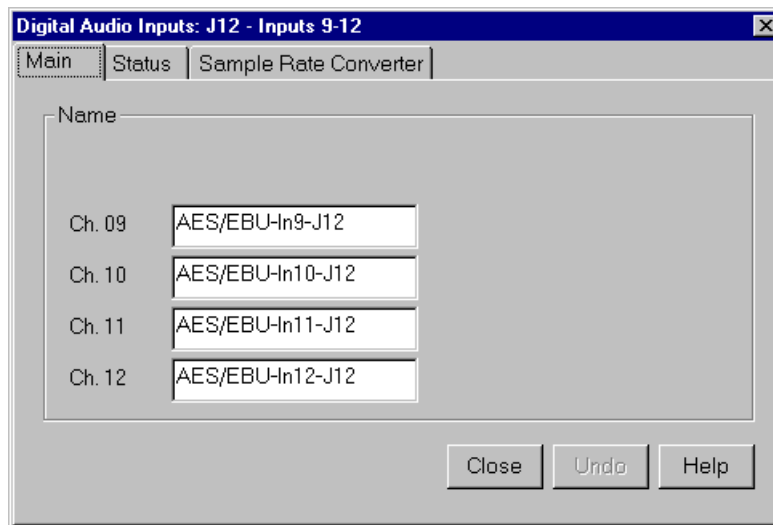

Figure 34. Digital Audio Input dialog box, Main tab
1. Expand Audio Input, and then click one of the Digital Channels to bring up the Digital Audio Input dialog box (Figure 34). The channel numbers on the left refer to the physical input connectors on the audio input box. **Ch. 01** and **Ch. 02** refer to the channel pair on the first connector, and **Ch. 03** and **Ch. 04** refer to the pair on the second connector, and so forth.